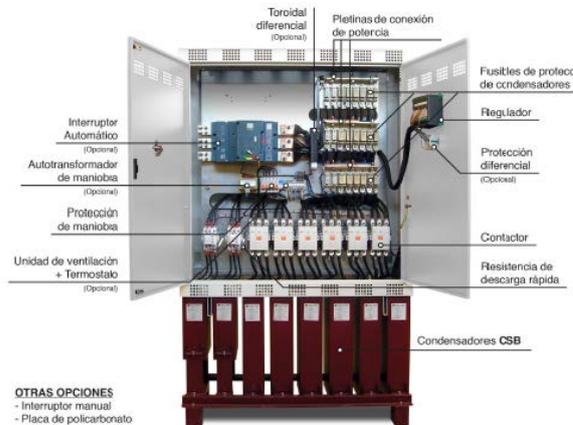

Fig. 4-3.- Parts of the different types of banks.
Fig. 4-3 shows the different capacitor bank models and their essential components. Note that some protection elements are optional
- Ensure the inner circuit breaker that starts the regulator (shown as the operating protection in fig. 4.3) is connected